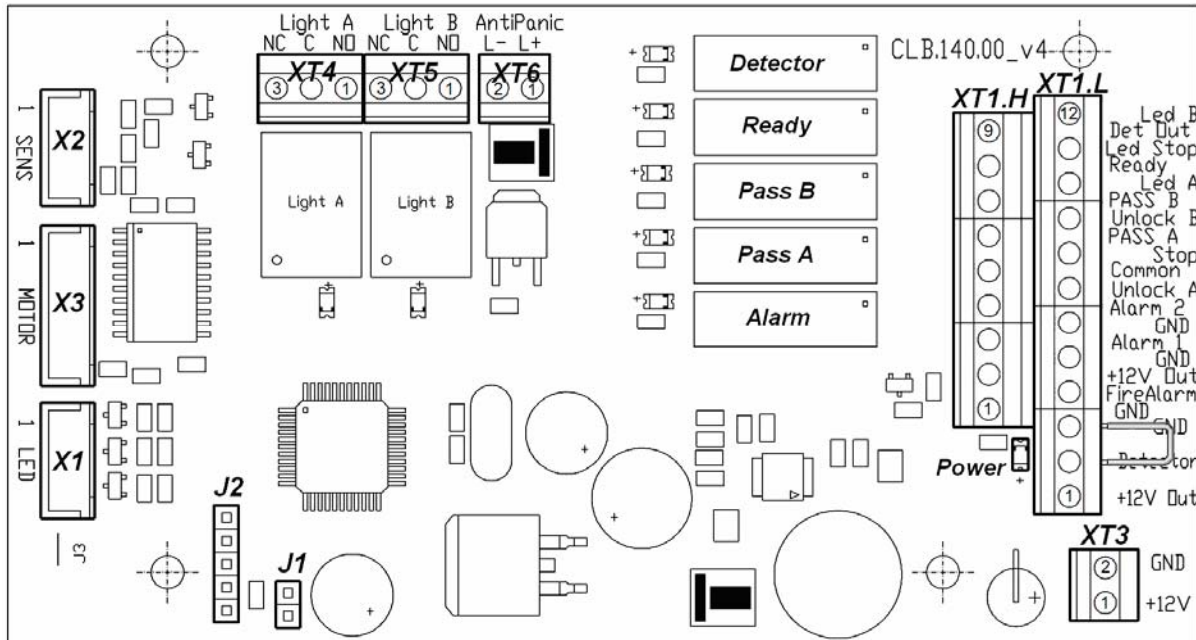
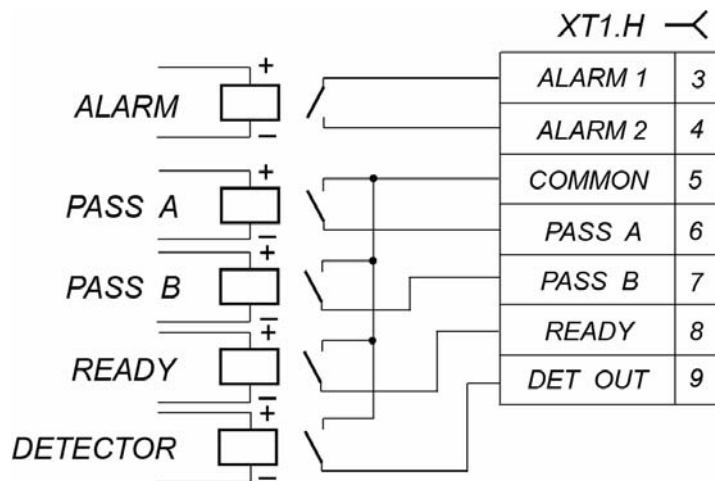
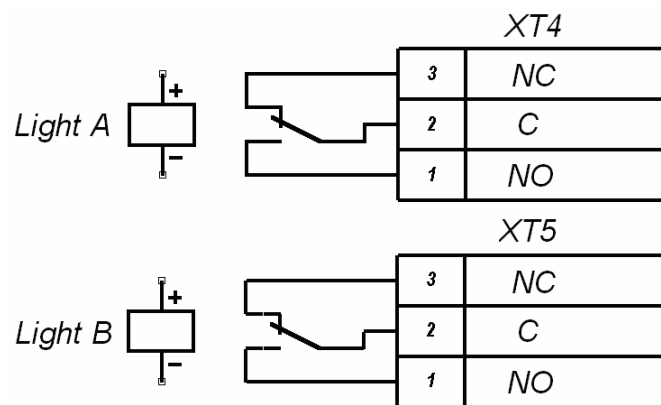

Figure 4. Control Logic Board (CLB)
Figure 7. Output cascades for PASS A, PASS B, Ready, Det Out and Alarm
Figure 8. Output cascades for Light A and Light B
The RC panel is connected to the CLB with a multicore cable (12) via the “XT1.L” connector block (See Fig. 4 and Fig. 11).
If the turnstile orientation relatively to the operator’s terminal is not standard (e.g. the terminal is placed at the backside of the turnstile housing), the RC panel orientation towards the turnstile can be changed by exchanging places of the RC wires to the contacts “Unlock A” and “Unlock B” as well as contacts “Led A” and “Led B” accordingly (see Fig. 4 and Fig. 11).
5.2.5 The CLB (Fig. 4) includes:
- **XT1.L (In)** connector block to connect the RC panel / the WRC / ACS controller (11) inputs as well as an emergency unblocking device (*Fire Alarm*) (9) and intrusion detector;
5.3.2 Connection of the devices stated in Clause 5.3.1 is made with the cable (5) to the corresponding connector blocks XT1.L and XT1.H of the CLB in accordance with the connection layout (Fig. 4 and Fig. 11).
5.3.7 Pin assignments of the CLB connector blocks are given in Fig. 4.
5.4.3 The relays *PASS A* (contacts *PASS A* and *Common*), *PASS B* (contacts *PASS B* and *Common*), *Ready* (contacts *Ready* and *Common*), *Detector* (contacts *Det Out* and *Common*) and *Alarm* (contacts *Alarm 1* and *Alarm 2*) have normally open contacts. The “*Common*” contact, at that, is not connected to the CLB power supply negative terminal. In the initial (inactive) state, when the power is on, the relay contacts “*PASS A*”, “*PASS B*”, “*Ready*” and “*Detector*” are closed (voltage is supplied to the relay coil) and the “*Alarm*” relay contacts are broken (voltage is not supplied to the relay coil). The CLB relay operation/release is indicated by lighting up/going down of the red test indicators located near the corresponding relays (Fig. 4). The output cascades for *PASS A*, *PASS B*, *Ready*, *Det Out* and *Alarm* are the contacts with the following signal characteristics (Fig 7):
5.5.2 The control mode is set by the jumper on the J1 connector (the J1 connector location is shown on Fig. 4 and on a label located on the inner surface of turnstile cover (2)): the jumper is fixed — the pulse control mode, the jumper is not fixed — the potential control mode. The jumper is fixed at the factory before the delivery.
- emergency unblocking device (9);
5.9.2 The intrusion detector is connected to the “XT1.L” connector block, and the siren is connected to the “XT1.H” connector block of the CLB according to the connection layout (Fig. 4 and Fig. 11). There should be normally closed contacts on the intrusion detector.
The intrusion detector status signal is constantly transmitted to the “*Det Out*” and “*Common*” contacts of the CLB “*XT1.H*” connector block (Fig. 4).
5.9.4 The emergency unblocking device is connected to the “*XT1.L*” connector block of the CLB in accordance with the connection layout (Fig. 4 and Fig. 11). If the “*Fire Alarm*” input is not used, it is necessary to set a jumper between the contacts “*Fire Alarm*” and “*GND*”. This jumper is preset at the factory.
5.9.5 The remote indicators^{**}) are connected to the connector blocks “*XT4*” (“*Light A*”) and “*XT5*” (“*Light B*”). At that the “*Light A*” (“*Light B*”) relay is active (the voltage is supplied to the relay coil), when the “*Green arrow*” pictogram on the LED indication display, corresponding to the set passage direction, lights, and it is passive, when the “*Green arrow*” pictogram on the Led display does not light. The response/release of the relays “*Light A*” and “*Light B*” can be defined according to lighting up/going down of the red indicators, which are installed near the above mentioned relays (Fig. 4). Output cascades for the “*Light A*” and the “*Light B*” relays are non bridging relay contacts (Fig. 8) with the following signal characteristics: